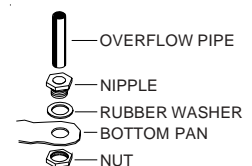

FIG. 3
- **Install overflow assembly.** Remove nut and place nipple through the hole in the pan, with the rubber washer between the pan and the head of the drain nipple (Fig. 3). Screw on nut and draw up tight against bottom of pan. Insert overflow pipe in nipple to retain water. The overflow pipe may be removed to drain the pan when necessary. A garden hose may be screwed onto the drain nipple to drain water away from your unit.